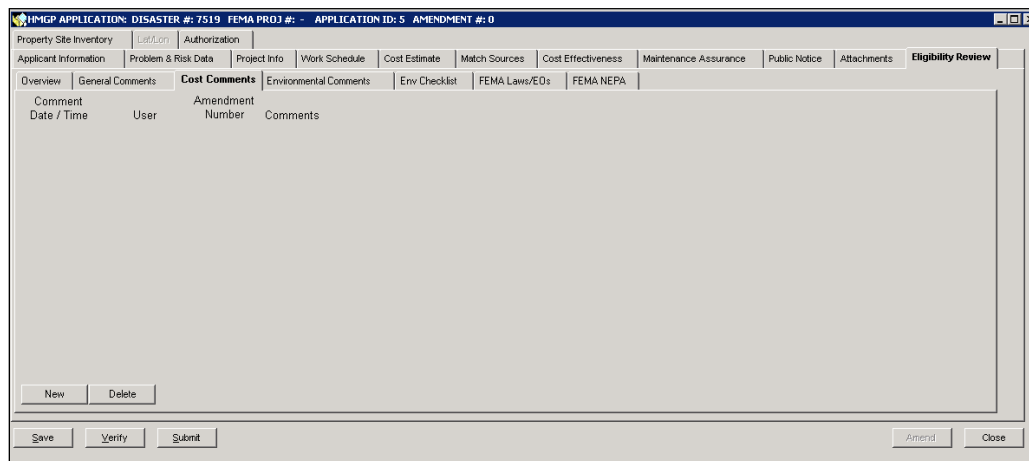

Figure 6-71: Mitigation > Projects > Application Development > Eligibility Review > Cost Comments Sub-tab
5. Click the **Cost Comments** sub-tab (Figure 6-71). To enter Cost Comments, complete Steps 4a 4c.